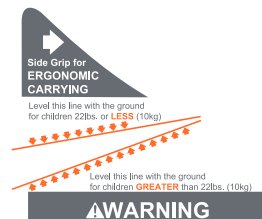

Fig. 56-1
- 2. Safety Seat without Base:** Check that the Safety Seat is level side to side on the vehicle seat. Check the Seat Angle Indicator that matches the weight of your child (Fig. 56-1).